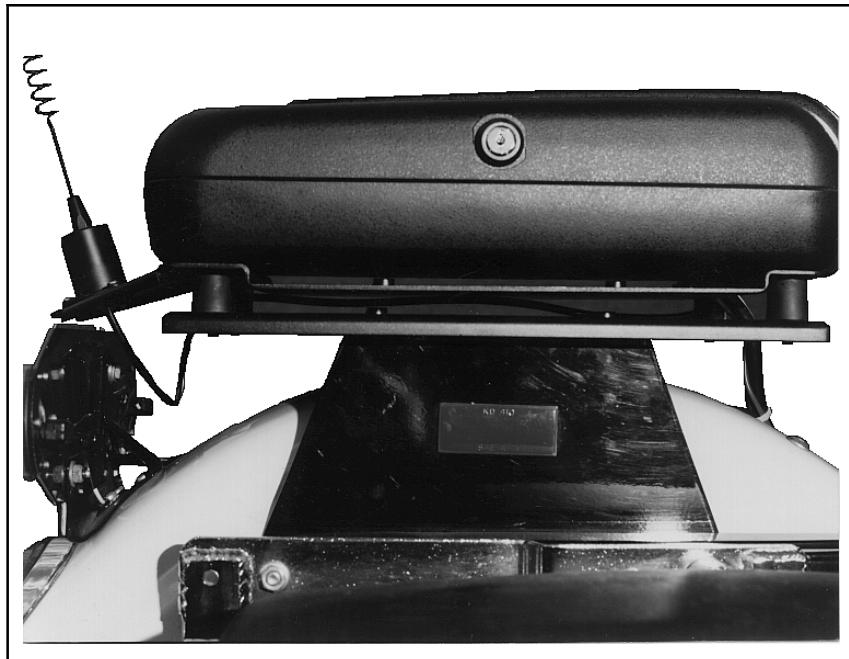

Figure 6-3: Case Mounting Bracket and Case Assembly
5. Mount the case mounting bracket and bottom case assembly onto the 4 resilient mounts using the serrated flange nuts and flat washers included inside the case. Refer to Figure 6-3.
9. Mount the antenna to the case/antenna mounting bracket using the M3 x 16 mm pan head screws provided. Refer to Figure 6-3.